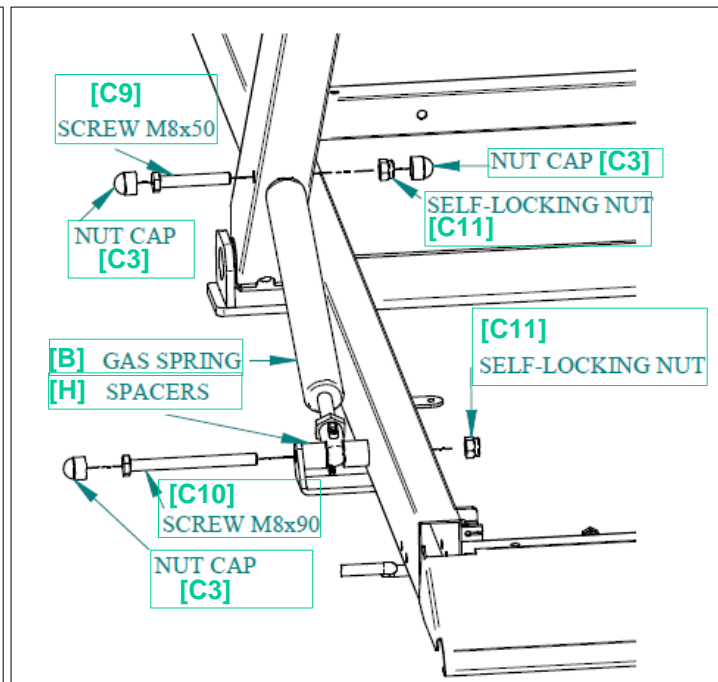

Fig. 2
- 6 Install the gas springs on the uprights from both sides: tighten the self-locking nut, leaving the spacers free to rotate (Fig. 2).